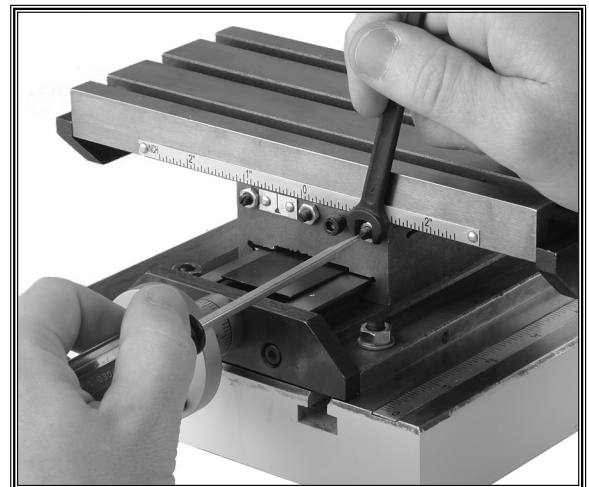

Figure 30. Longitudinal gib screw.
2. Loosen the lock nuts as shown in **Figure 30**.